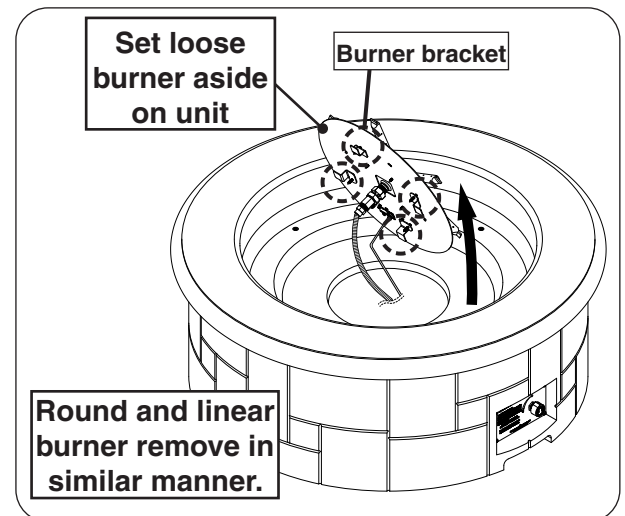

Fig. 25-2 Remove burner assembly
2. Use a $\frac{5}{16}$ " nut driver to partially unfasten the four or eight screws found on the burner assembly. Then carefully remove the burner and set it off to the side. See Fig. 25-2.